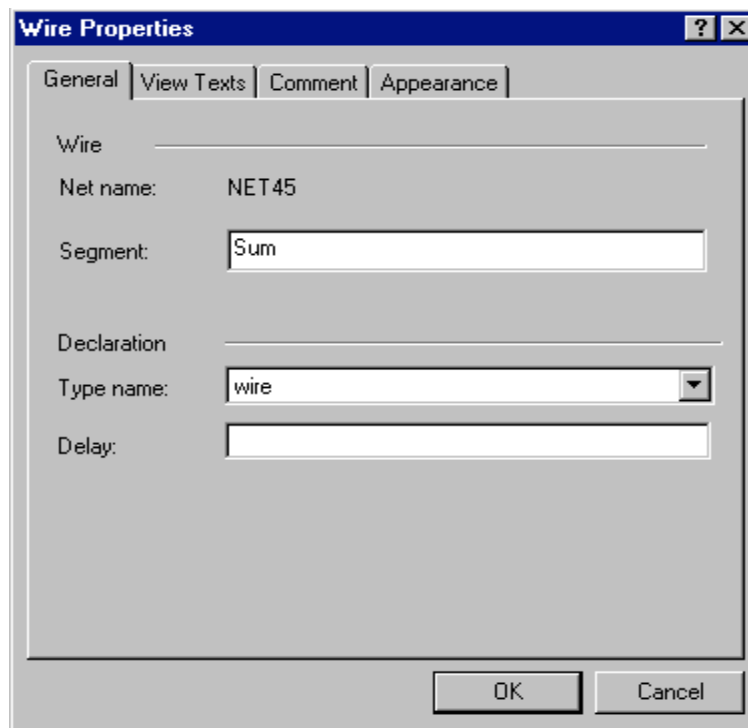

Figure 23
1. Double-click the wire segment you wish to label. This opens the Wire Properties window (Figure 23).